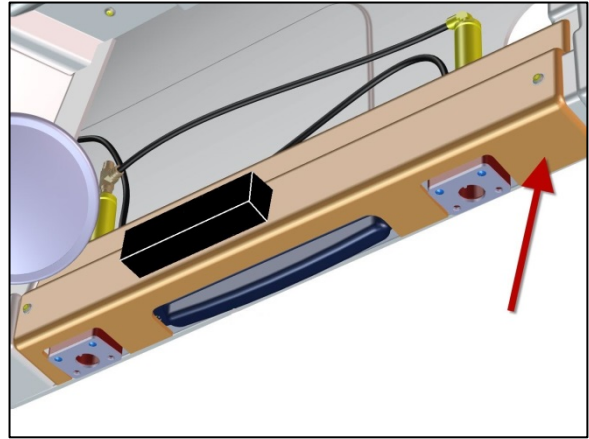

Figure 31
40. Install the new entrance door upper moulding #3210118 with the screws (2) (item 1, Figure 31).
51. Install new entrance door upper moulding #3210118 (item 2, Figure 31).